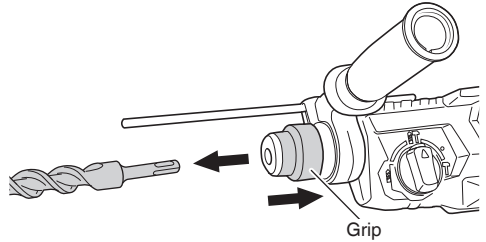

Fig. 2
- (3) Check the latching by pulling the tool.
- (4) To remove the tool, fully pull the grip in the direction of the arrow and pull out the tool (Fig. 2).